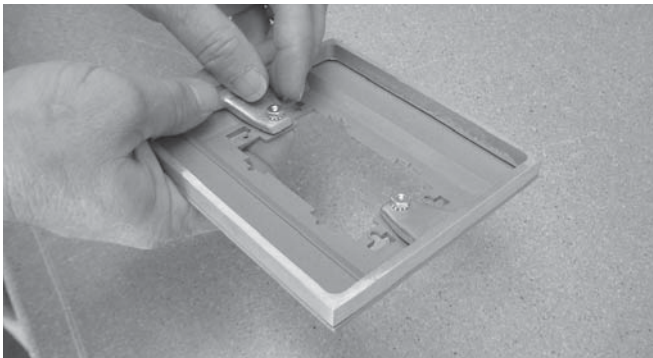

Figure 7
Using (2) #6-32 x 7/16" screws and Keps® nuts provided, securely fasten trim plate to stand-off (Figures 7 and 8).